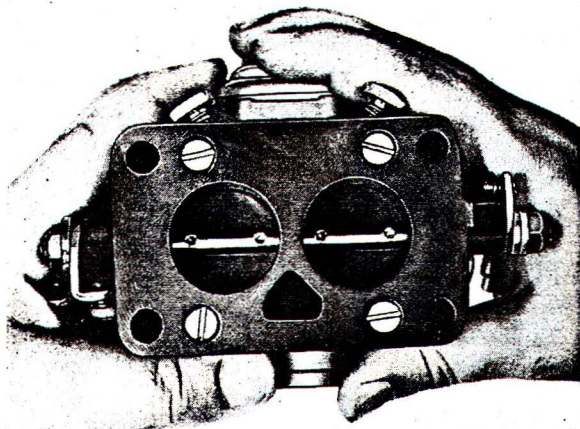

Fig. 25
2. Subject throttle valves to a light scanning test. Both throttle valves must close uniformly (see fig. 25). Should this not be the case, turn throttle valve shaft carefully until both throttle valves close uniformly.